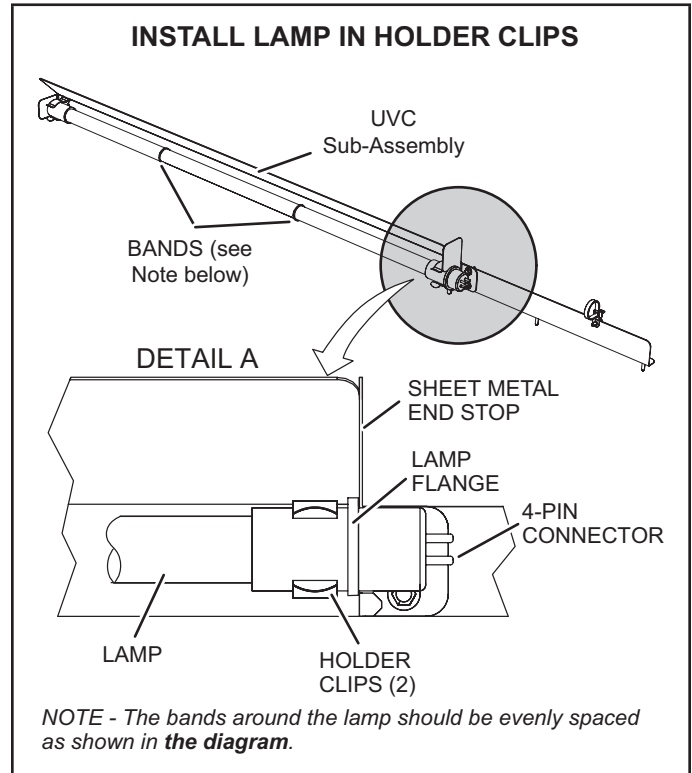

FIGURE 42
- 5 - Remove the (2) mounting screws of the UVC assembly. Carefully slide the complete UVC assembly out through the blower access door.
- 7 - Wear cotton gloves or use a cotton cloth when handling the new lamp. Place the new lamp in the holder clips of the UVC assembly. Verify that the lamp flange at the connector end is sandwiched between the lamp holder clip and the sheet-metal end stop (see FIGURE 42).